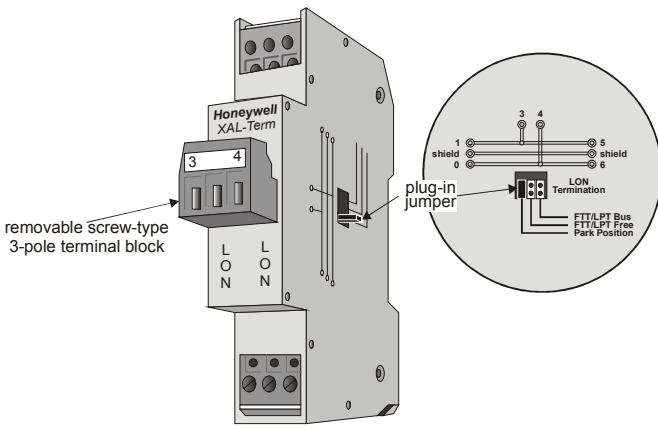

Fig. 36. XAL-Term
- XAL-Term LONWORKS connection and termination module (see Fig. 36), which can be mounted on DIN rails and in fuse boxes.